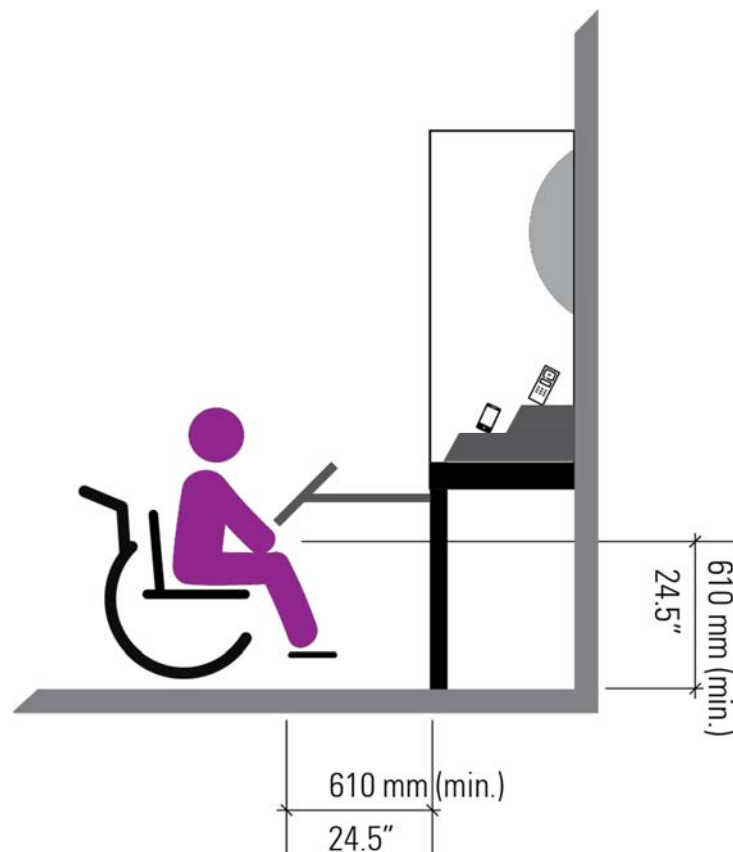

Figure 2.2 Knee clearance for reader rails
- Where display cases have a counter or reading rail it will provide clear knee space of 610 mm high, 610 mm deep, and 760 mm wide (see Figure 2.2 p.12)